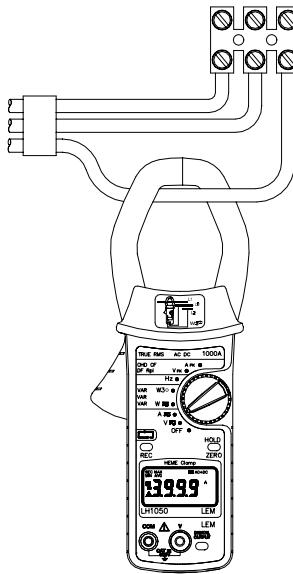

Fig. 2
- Press the trigger to open the jaws and clamp them around the current carrying conductor as shown in Fig. 2
- To measure the frequency of the current press the trigger to open the jaws, and clamp them on the current carrying conductor, as shown in Fig. 2 and read the display